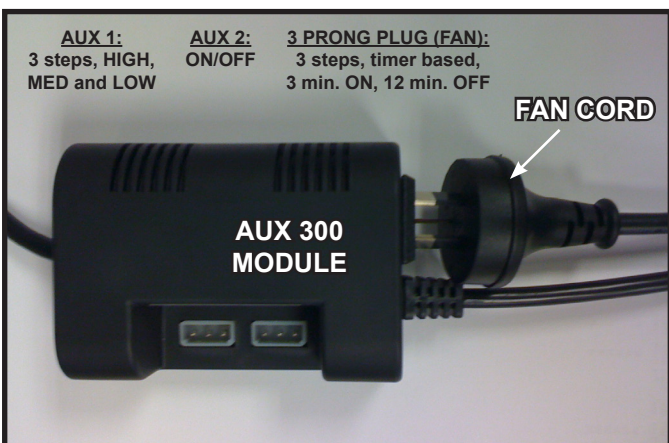

Figure 12.9 Plug Fan into AUX300CE Module
- Insert the 3 prong plug from the fan into the receptacle located in the AUX300CE module. See Figure 12.9.